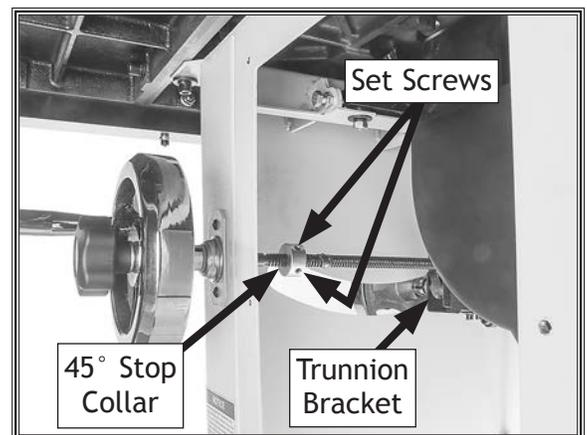

Figure 105. Location of 45° stop collar (right access cover removed).
5. Open right access cover, loosen set screws on 45° stop collar (see **Figure 105**), then turn collar one turn away from trunnion bracket. This will allow you to adjust blade to exactly 45° in next step.